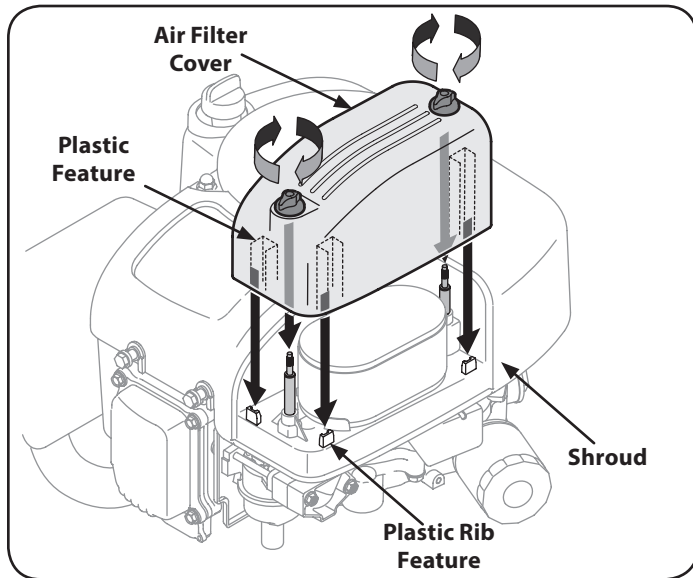

Figure 18
6. Attach the air filter cover, making sure to align plastic rib features on the shroud to the plastic features on the air filter cover. See Figure 18. Turn thumb screws clockwise until snug. Check for any misalignment.